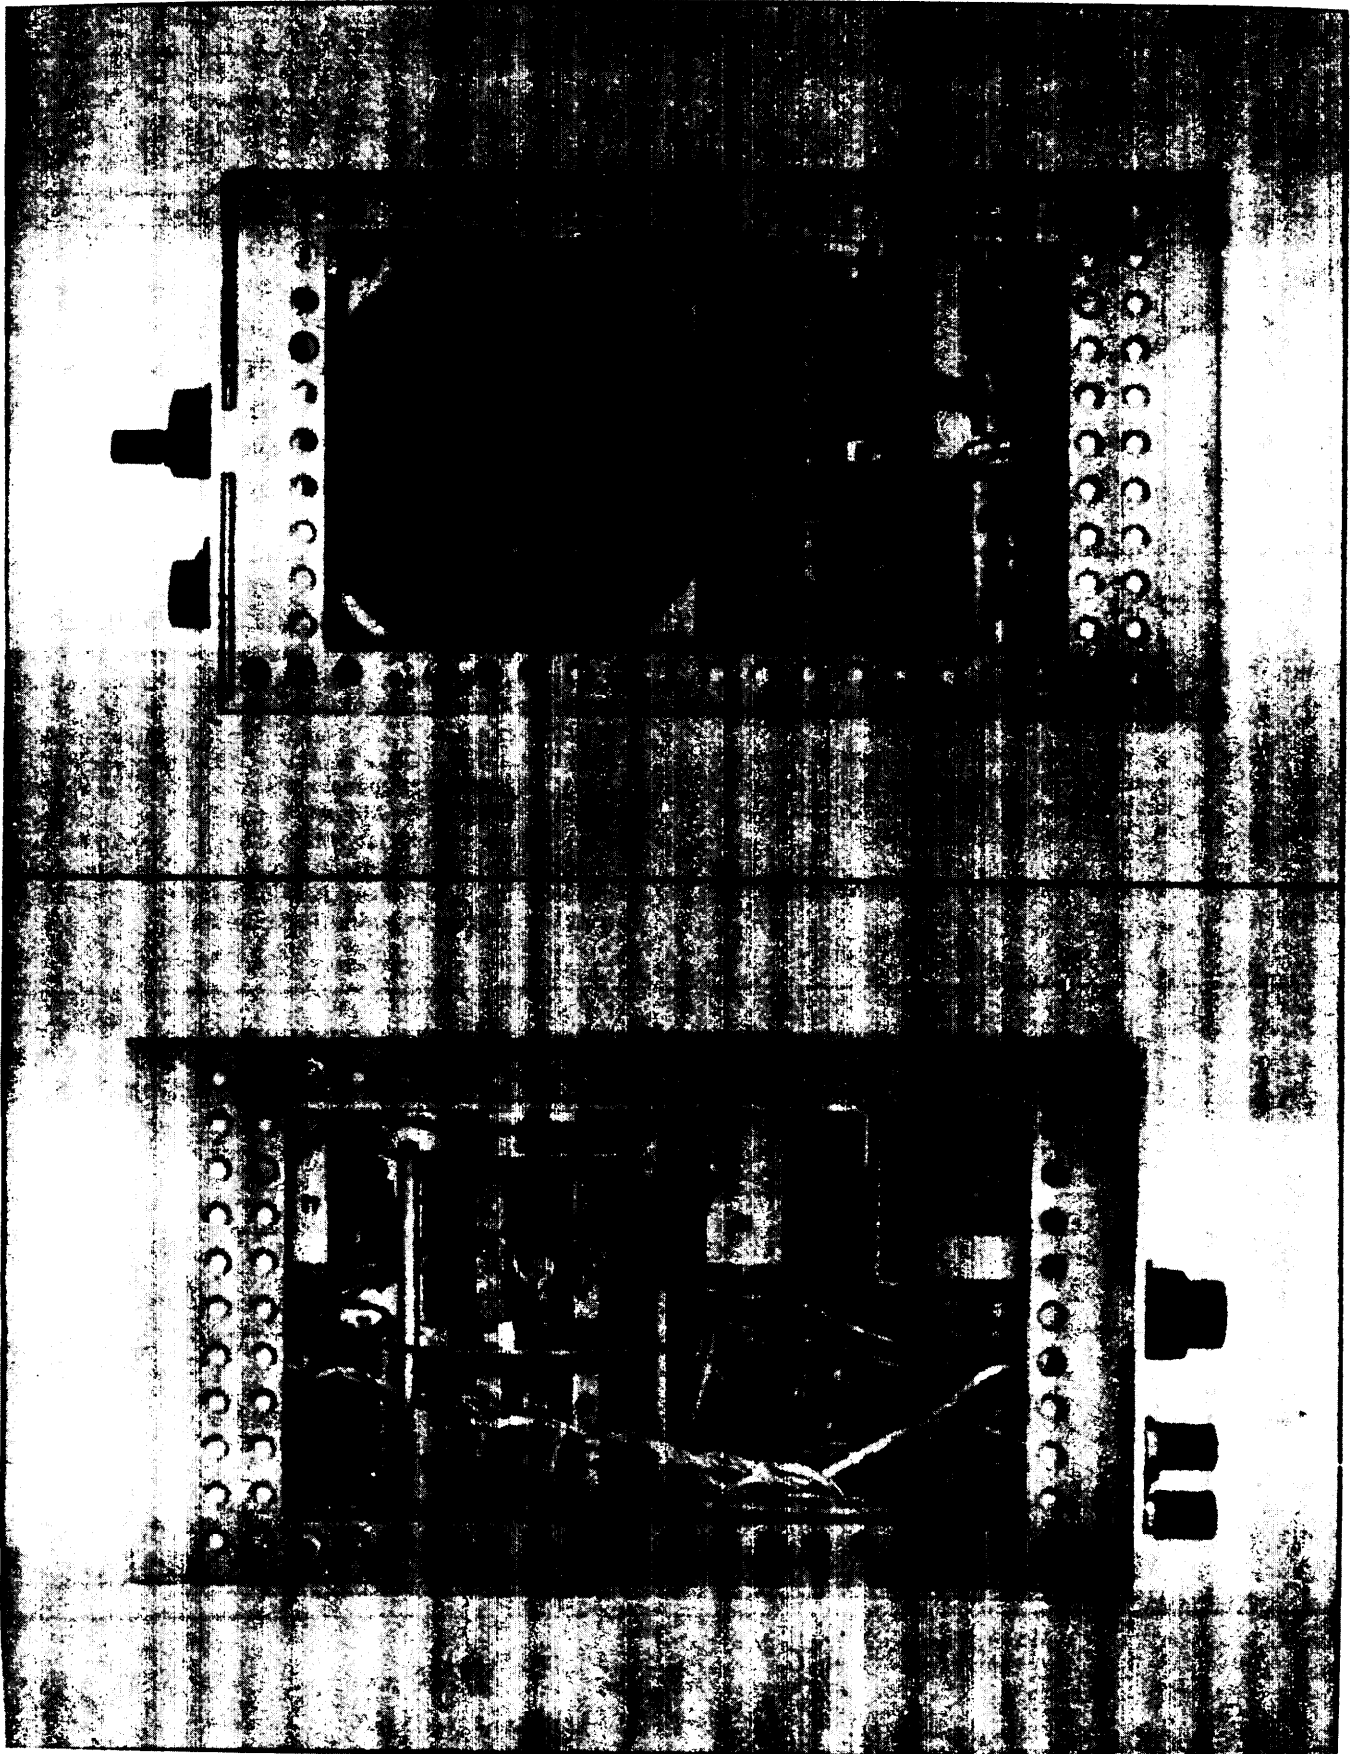

Figure 5-3. Right and Left Side Internal Component Location
5-16. Instrument covers are removed by taking out screws in each cover. To remove front panel, remove all front-panel knobs and side covers. In Figure 5-3 10 cat e the four screws "A" which hold the side frames; loosen these screws. Carefully pull front panel towards front while holding side frames apart to release panel. Loosen deck side screws also.
5-20. CRL COUNTER. To remove this counter, remove two screws "B" in Figure 5-3 and lift out counter. Refer to Paragraph 5-27 (CRL ADJUSTMENTS) before installing counter.
5-21. CRL RESISTOR R3. For R3 replacement, remove CRL knob and four screws "C" in Figure 5-3.
- d. Loosen screws "B" in Figure 5-3 and separate counter gear from gear train.